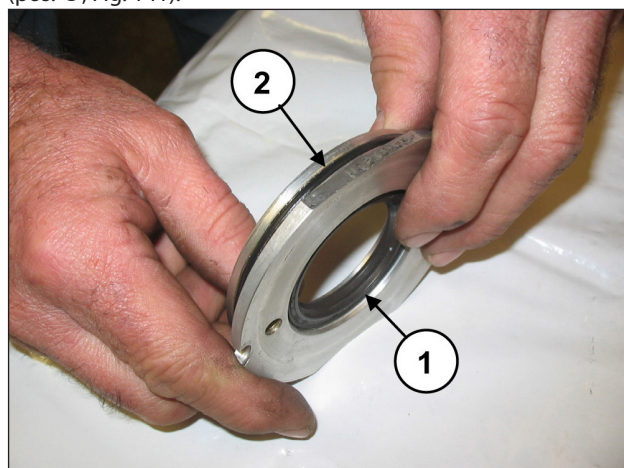

Fig. 141
Replace the oil seal (pos. ①, Fig. 141) and the external O-ring (pos. ②, Fig. 141).